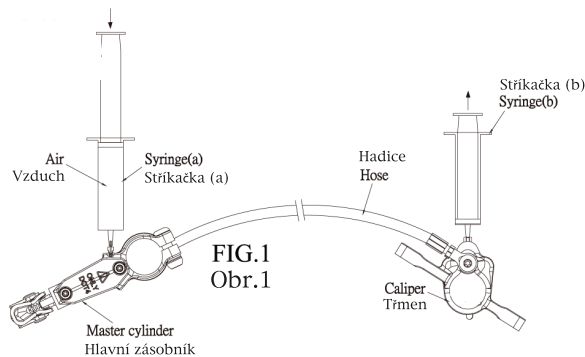

FIG. 1
- In exchanging new braking fluid, pressurize an empty syringe on one end and vacuum suck on the other end the used old braking fluid out. As shown on fig. 1.